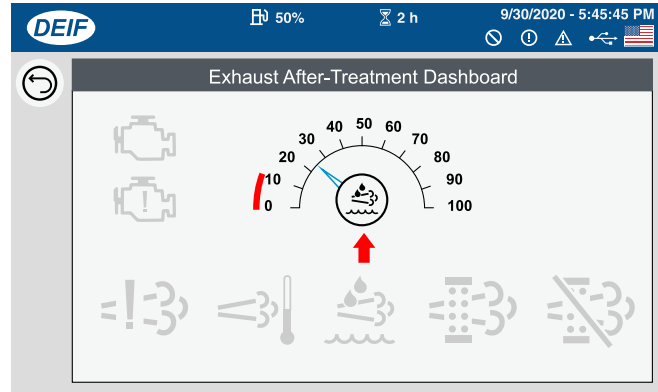

**Figure 206. Exhaust After-Treatment Dashboard (Regeneration Inhibited)**
2. When the Regeneration Inhibit command has been accepted, the **Regeneration Inhibited** indicator will turn **ON** (Figure 205) and the **Regen Inhibit** indicator will be displayed on the **Exhaust After-Treatment Dashboard screen** (Figure 206). DOC/SCR regeneration will not occur.